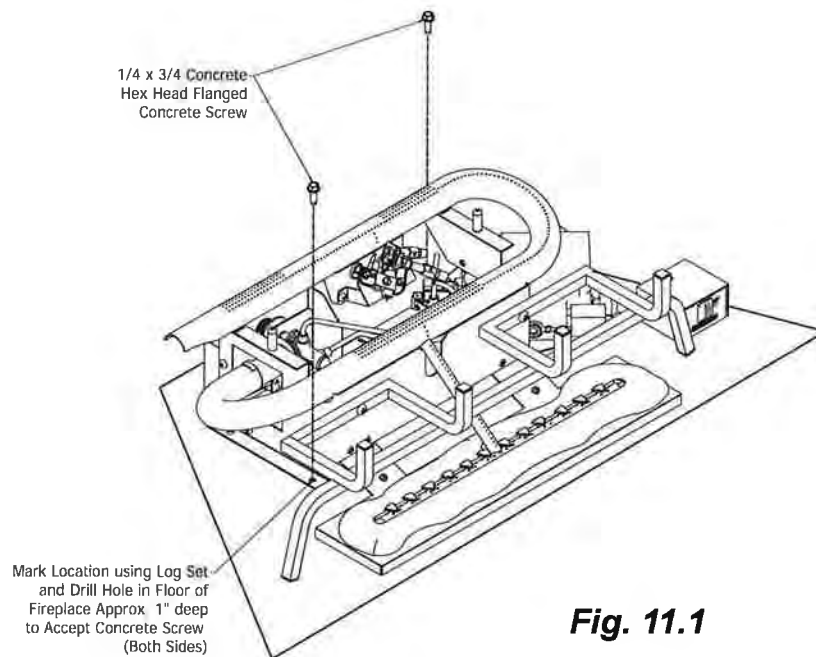

Fig. 11.1
- Drill two (2) 5/32" diameter holes approximately 1" deep.
- Anchor the front pan to the floor using the (2) Concrete Attachment Screws (Not Included). (See Fig. 11.1).